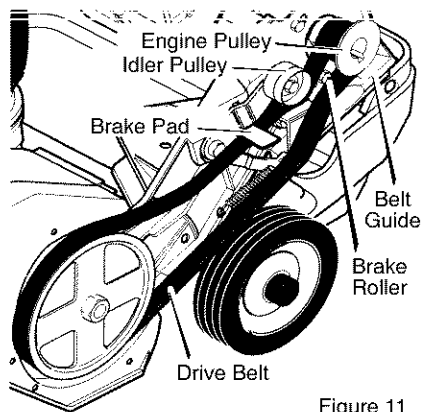

Figure 11
2. Remove the **drive belt** from the **idler pulley** (Figure 11).